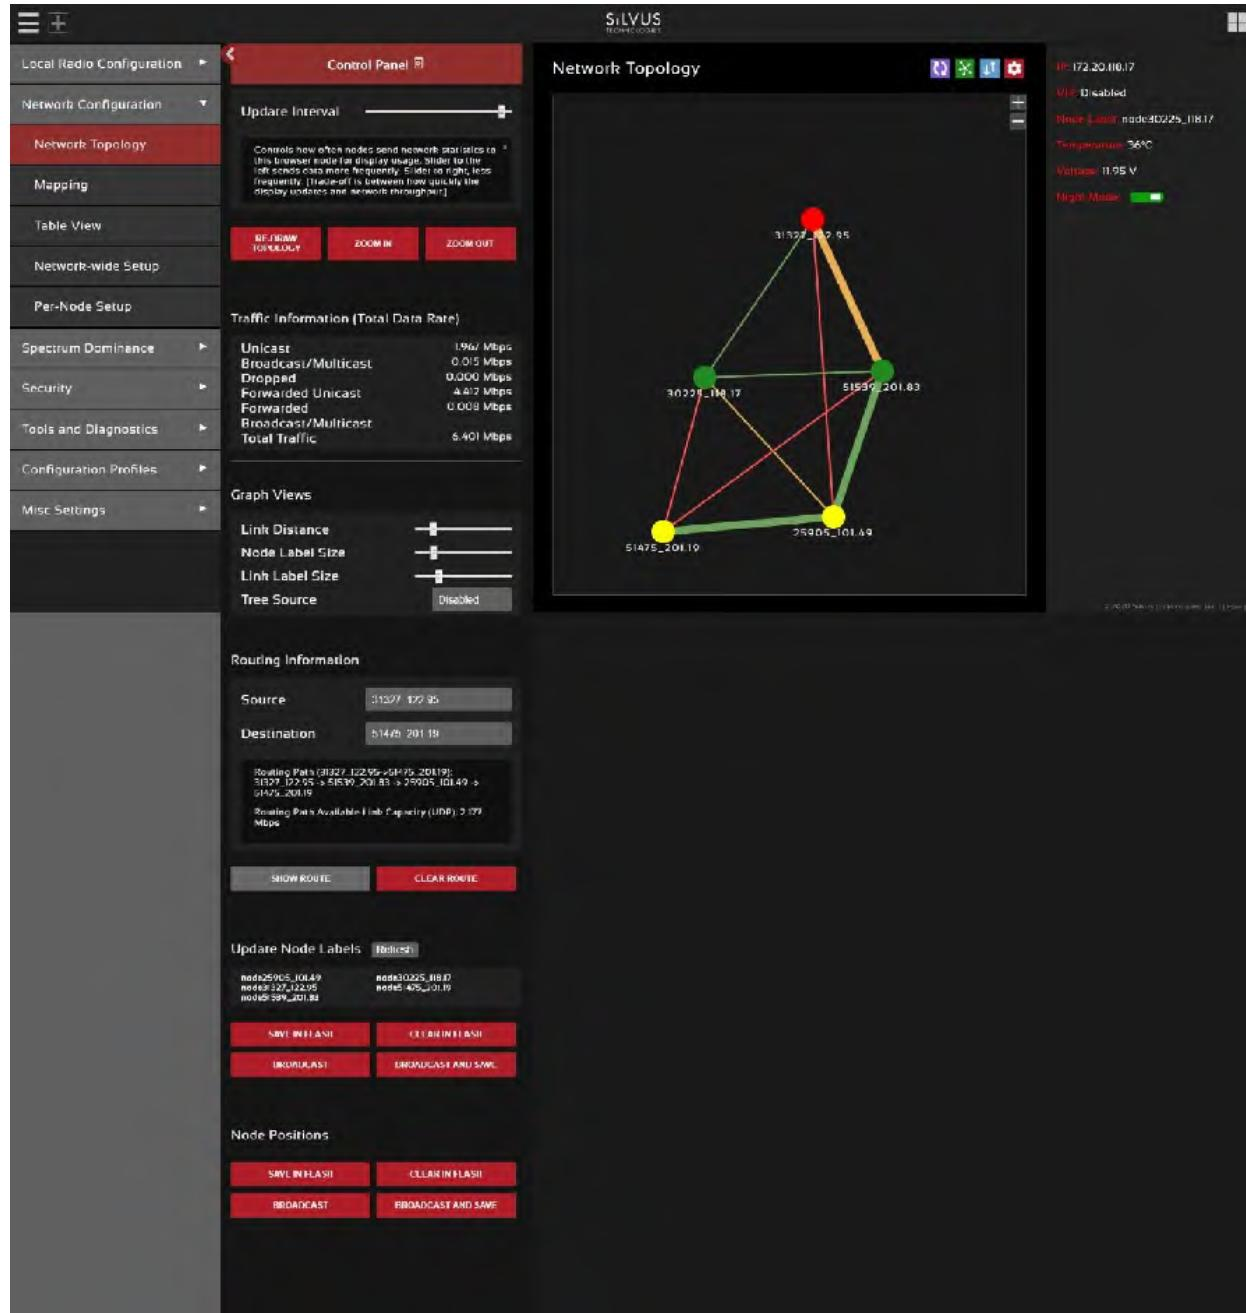

Figure 47 Routing Path
- **Routing Information** – The user can view the routing path between any 2 nodes within a network by simply specifying the source and destination node in the Control Panel. The path will turn bold as shown in **Figure 47 Routing Path** for the path from ‘node31327’ to ‘node51475’. In the control panel section it will also list the routing path used between these two nodes, and the routing path available link capacity in UDP.